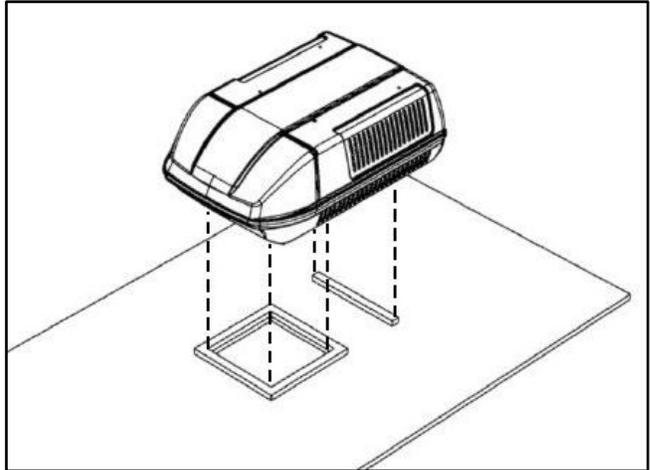

Fig 6- Gently set the unit over the roof gasket..
- Position the unit over the gasket so that the corners of the square hole in the RV roof line up with the corners of the square hole underneath the air conditioner (Fig 6).
8. Mating and un-mating the completed connector is illustrated in Figure 6.